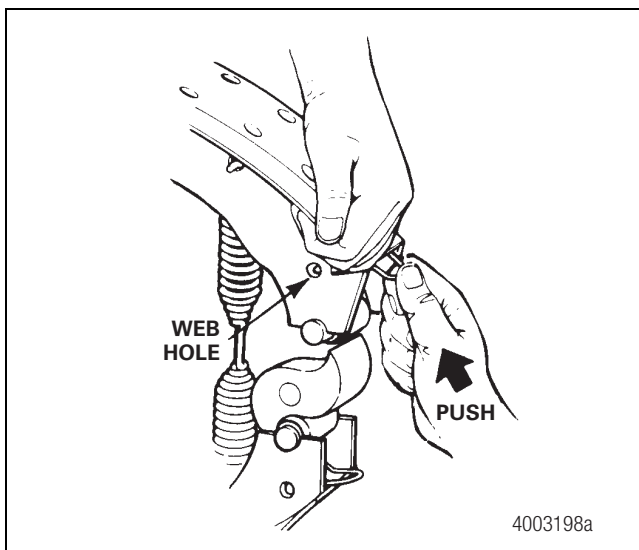

Figure 5.6
9. Push each roller retainer clip into the brake shoe until its ears lock in the holes in the shoe webs. Figure 5.6.